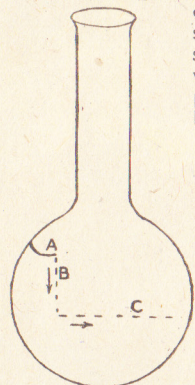

Fig. 1—An evaporating basin from a cracked flask
If the crack is in the position (A) in Fig. 1, it must be extended downward via the vertical dotted line (B) to the dotted line (C). Once at (C) keep reheating the rod in the bunsen or spirit lamp flame and placing it about  $\frac{1}{16}$  in. beyond the end of the crack.